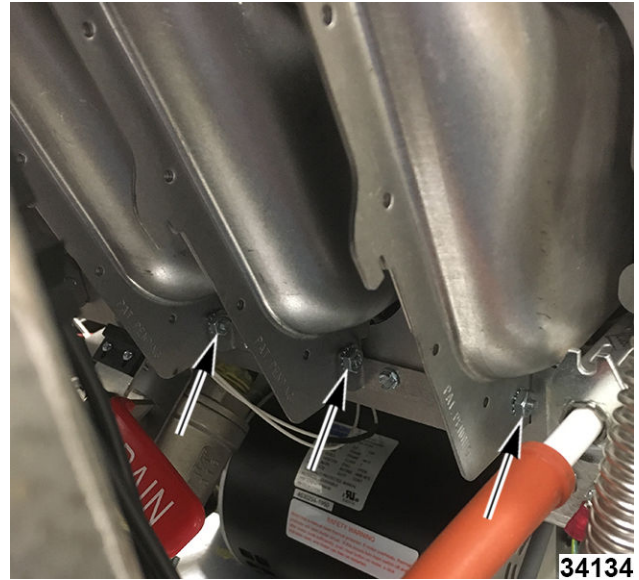

Fig. 30
13. Tighten bottom burner bracket mounting nuts Fig. 30.